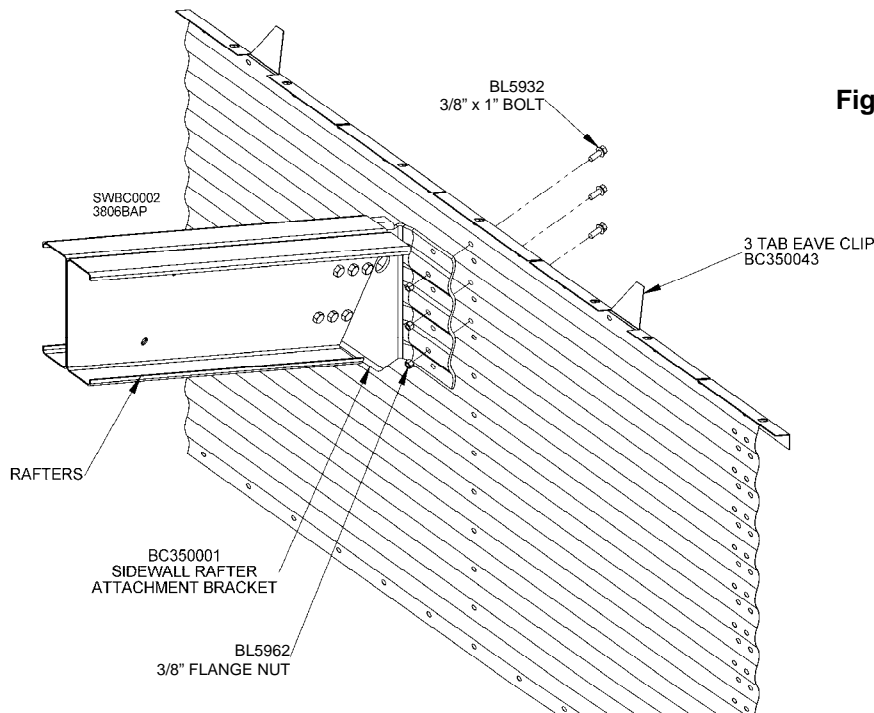

Fig. 12
Lift sidewall rafter attachment brackets to attachment locations (top of brackets flush with sidewall sheet) and secure each bracket with three (3) 3/8 x 1" bolts and 3/8" flange nuts. Insert bolts from outside of bin sheet. See Fig. 12. Tighten these bolts at each location.